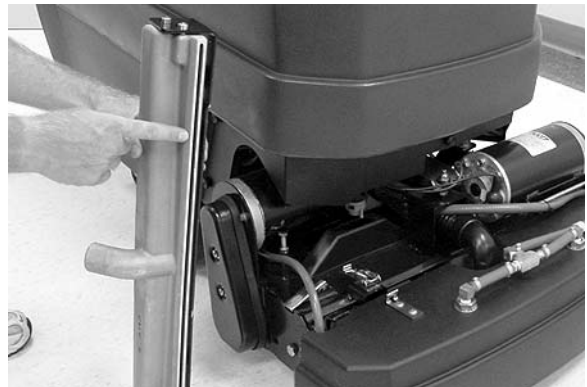

FIG. 31
5. Remove any debris lodged in the carpet extraction vacuum shoe (Figure 31).